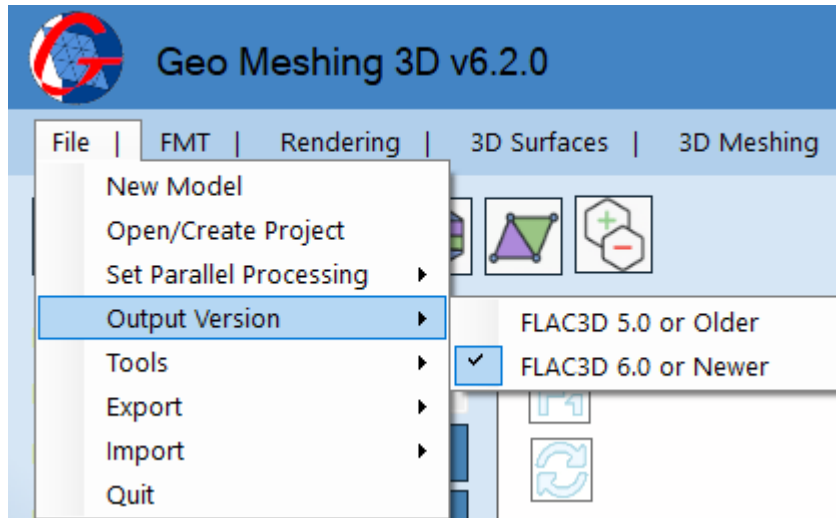

Figure 11: File Menu – Output Version.
- **File Menu, Output Version:** This option (shown in Figure 11) has a submenu with two options for defining the output format.